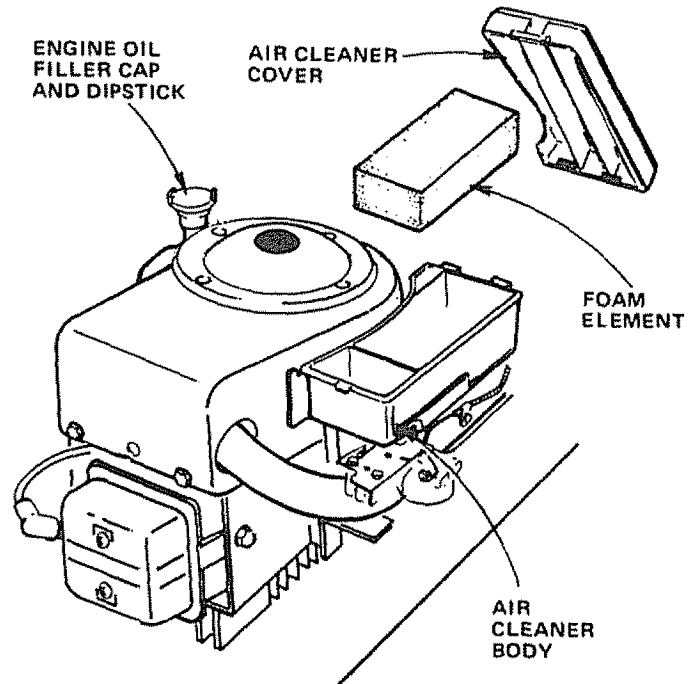

FIGURE 28
1. CLEAN AIR CLEANER ELEMENT (FIG. 28)